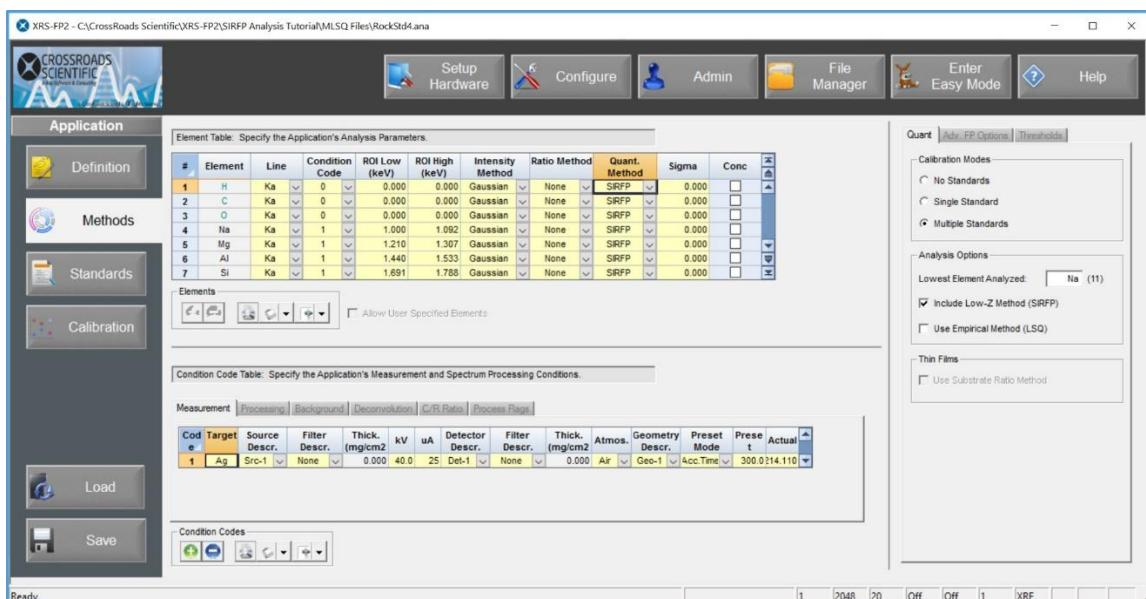

Figure 13. Quant Method. Set the Quant Method to “SIRFP” for all elements.
19. Double check that the Calibration Mode under the “Quant” tab to “Multiple Standards” and the Analysis Options to “Include Low-Z Method (SIRFP)” if it is not already set. Also change the Quant Method to “SIRFP” for ALL elements. See Figure 13 below. Note: select the **Save** button and save the ANA file if any changes are made.